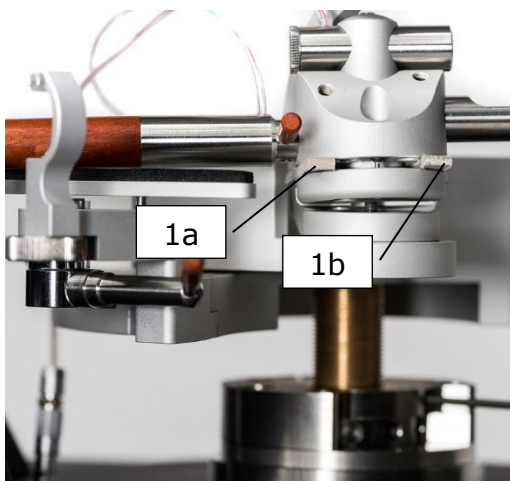
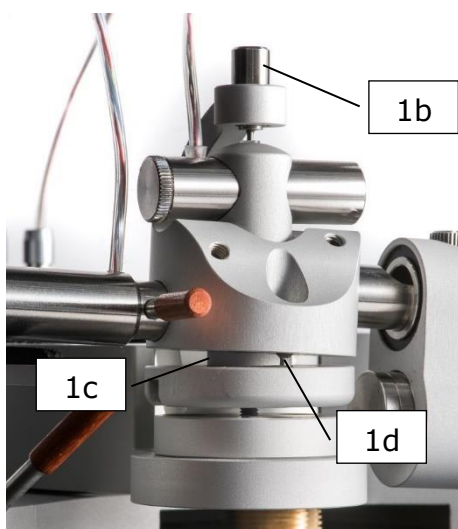

Figure 10
Figure 11
- i) Remove bearings protection strips [1a] and [1b] (Figure 10) from the armwand and check if horizontal axis bearings [1c] and [1d] are in a correct position (Figure 11).
Bearings protection strips [1a] and [1b] (Figure 10) must be placed back while transporting tonearm. Otherwise the bearings may be damaged.
- j) Screw out the top bearing of vertical axis from bearing protection. Take the hex (allen) key  $s=2,5$  mm and screw bearing in place [1b]. **Needle of the bearing must be embed in sapphire V cup.** Bearing should be screwed in tight, however do not apply excessive force (Figure 11).